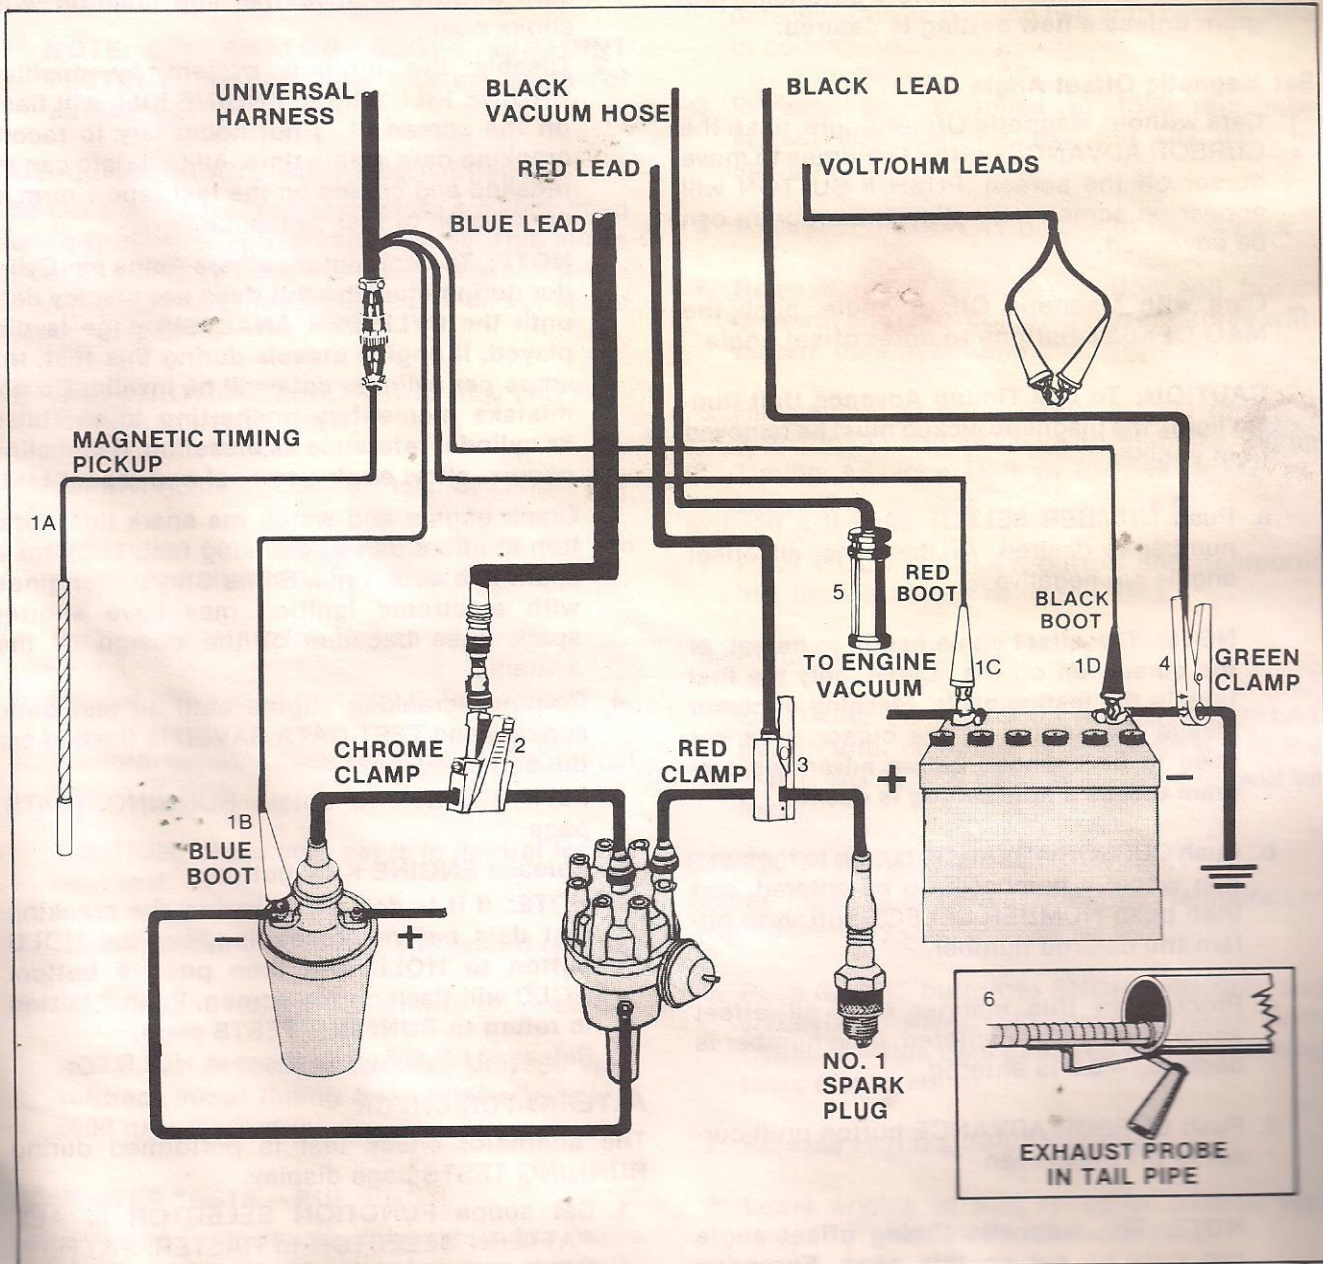

FIGURE 21 — Test lead connections to engine.
1. Connect the leads from the Universal Harness as follows. See Figure 21.